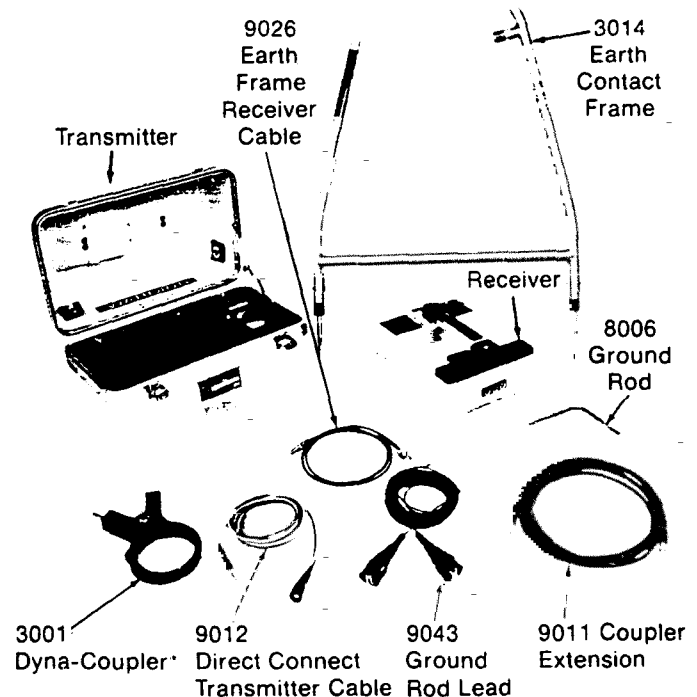

Figure 2 — The 573 Test Set with Accessory Units
- 2.01 TRANSMITTER & RECEIVER: The 573A consists of a transmitter, a receiver, and accessory items (Fig. 2). The transmitter and receiver cases are made of high-density polyethylene for light weight and high durability, and are colored bright yellow for visibility. Both are water-resistant in wet-weather operation. For compact storage and carrying, the receiver and accessories fit into the transmitter case. To preserve battery life, "off" switches are activated on both transmitter and receiver when the receiver is fitted into the transmitter case. A stainless steel ground rod is clipped inside the set's lid.